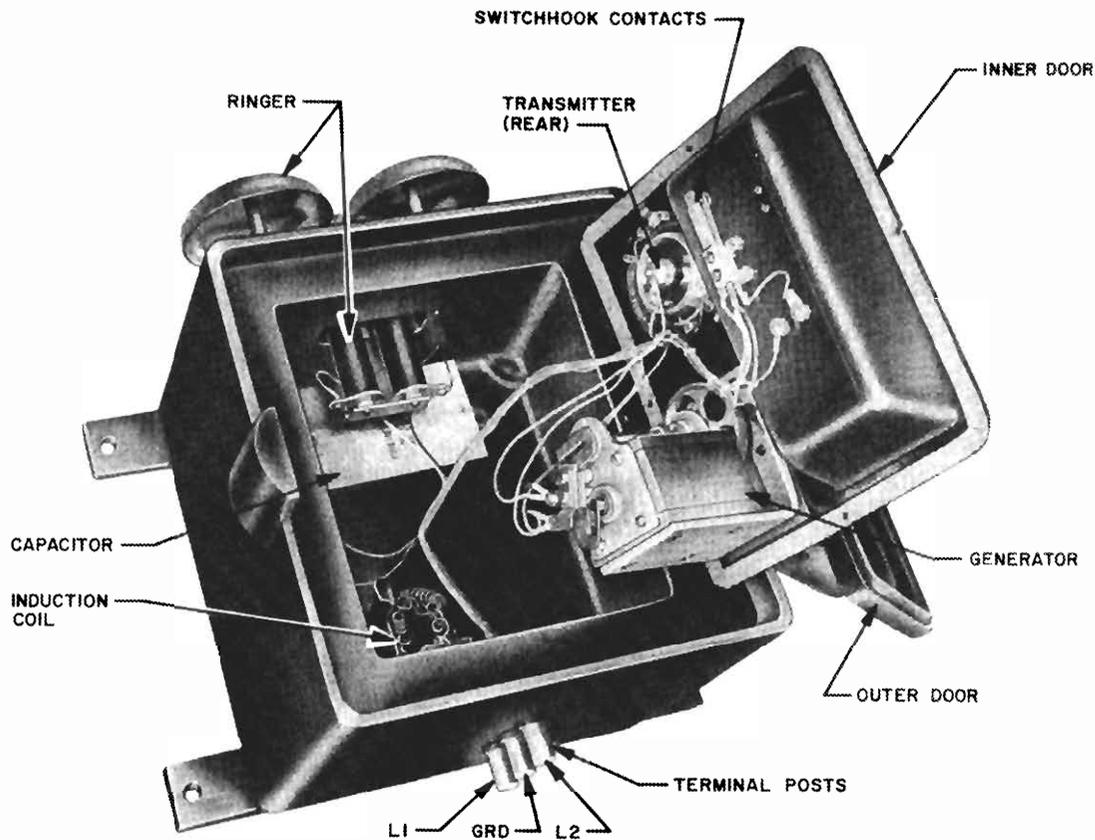

Fig. 3 — KS-19148, List 1 Telephone Set, Component Parts
**2.05** The ringer coils (Fig. 3) are mounted inside the case and are magnetically coupled to the gong clapper on the outside of the case. The gong hood covers both the clapper and gongs. It mounts on the case with four screws.